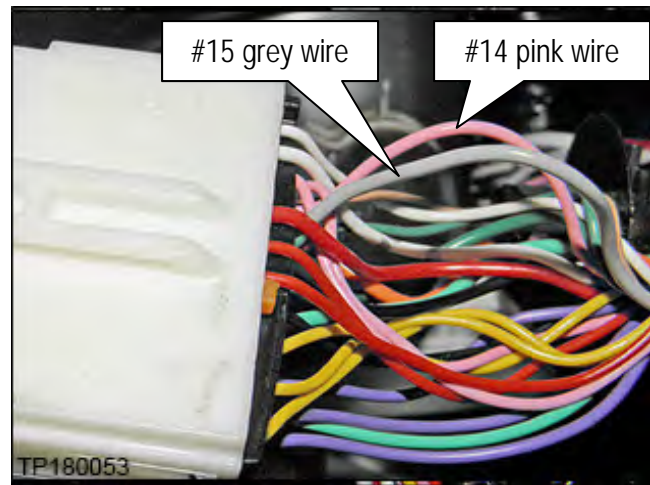

Figure 27
31. Separate the grey and pink wires that have been located from the other wires as shown in Figure 27.